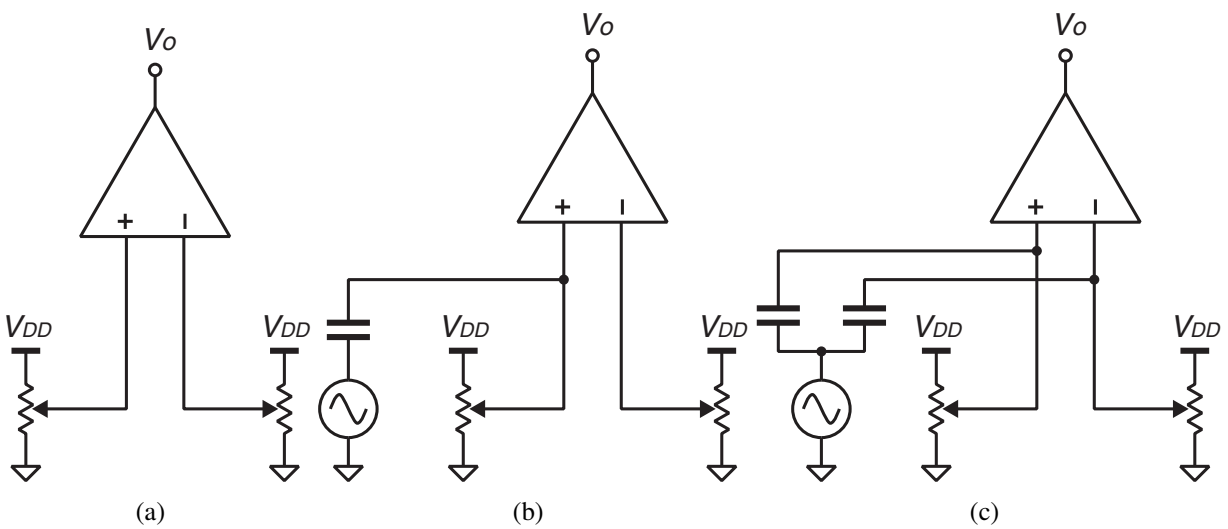

Figure 3: (a) Circuit configurations for offset cancellation, (b) differential gain ( $A_d$ ) measurement, and (c) common-mode gain ( $A_c$ ) measurement.
2. Adjust the bias current ( $I_B$ ) to 1 mA, and set the opamp inputs to the common-mode voltage found in preparation using two multi-turn potentiometers as shown in Figure 3(a) .
4. Connect one of the opamp inputs to a signal generator via a large capacitor as shown in Figure 3(b) and find the differential gain ( $A_d$ ) of the opamp.
5. Connect both of the opamp inputs to a signal generator via separate capacitors as shown in Figure 3(c) and find the common-mode gain ( $A_c$ ) of the opamp. Calculate the CMRR.